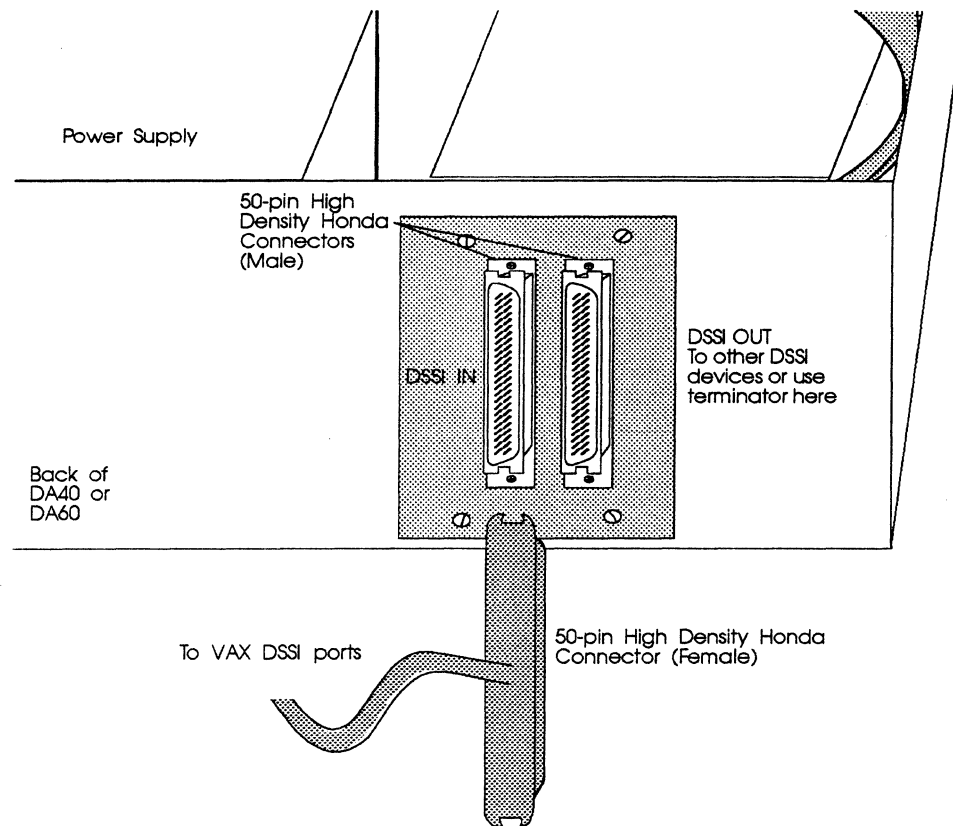

Figure 7-14: DSSI port for TRIMM DA40 or DA60
- 10 Connect an external DSSI cable to one of the DSSI connectors on the DSSI bracket as shown in Figure 7-14.